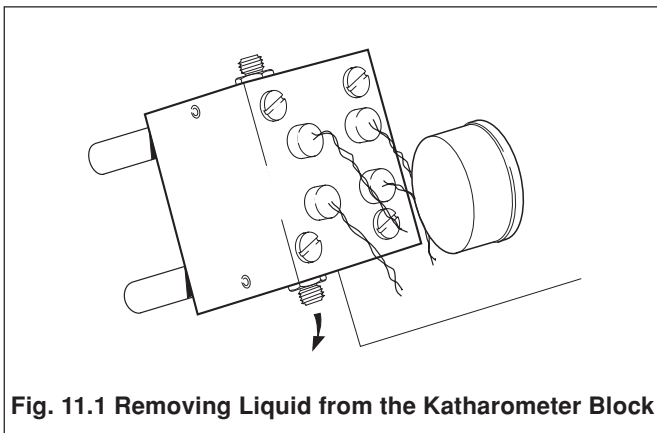

Fig. 11.1 Removing Liquid from the Katharometer Block
11.4.1 Removing Liquid from Katharometer Measurement Block – Fig. 11.1
- 6) Remove the measuring unit from the case and tilt at 45° to the horizontal. This allows any liquid to drain from the measurement block. See Fig. 11.1.